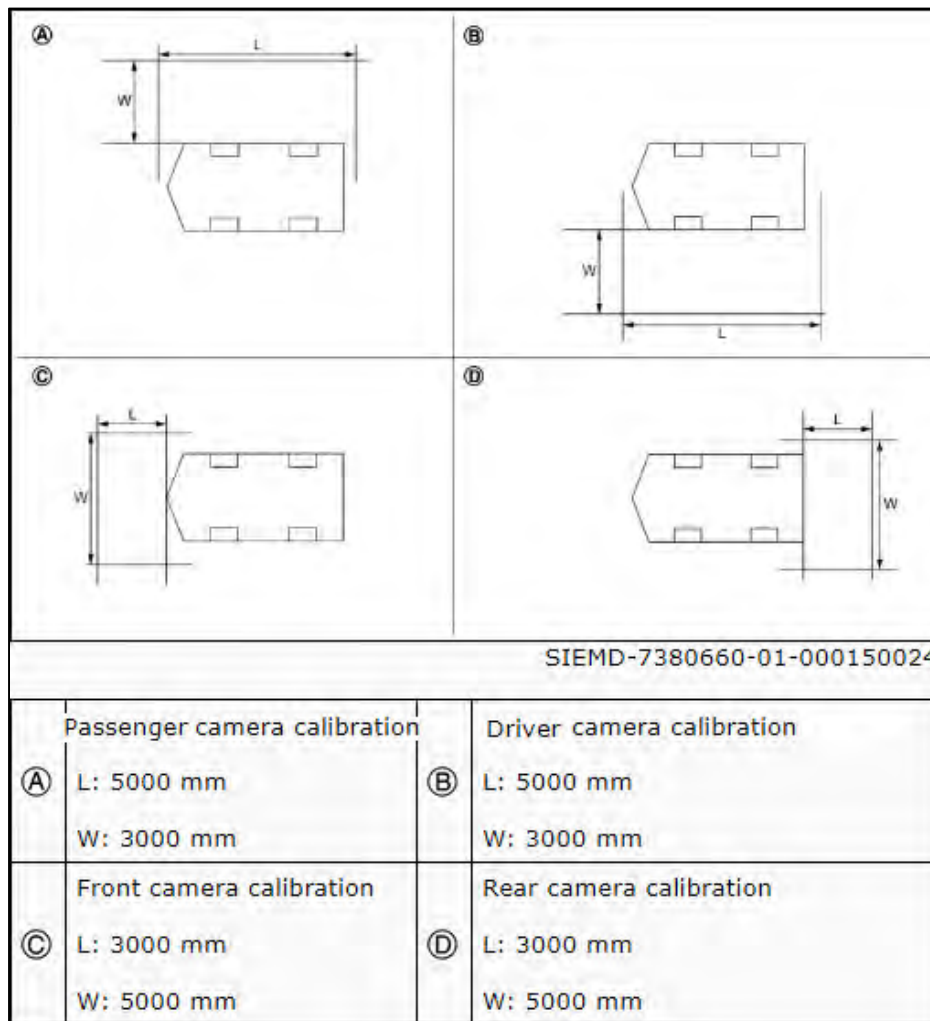

Figure 9
**HINT:** The shop floor area requirements are shown in Figure 9 (only one camera will be calibrated at a time so the vehicle can be repositioned for each camera as needed).